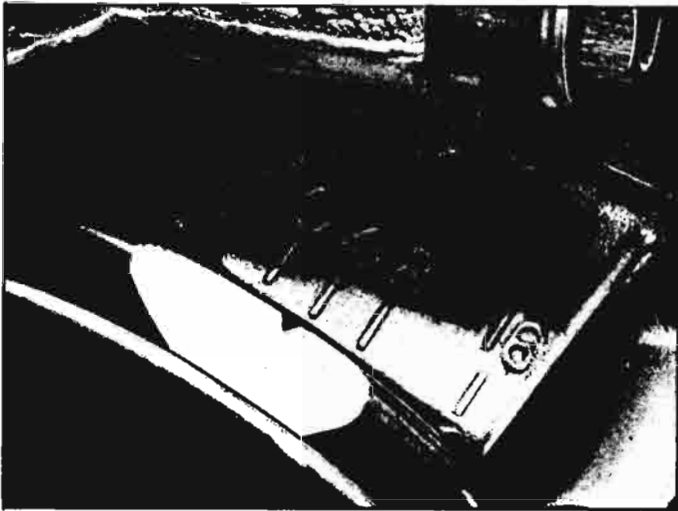

Fig. 7-14—Ignition Timing
- Aim timing light at timing mark on top of crankshaft pulley as shown in Figure 7-14. For correct timing mark on pulley should line up with $4^\circ \pm 1^\circ$ BTDC mark on timing tab for models with manual transmissions and 13° BTDC on Powerglide models.